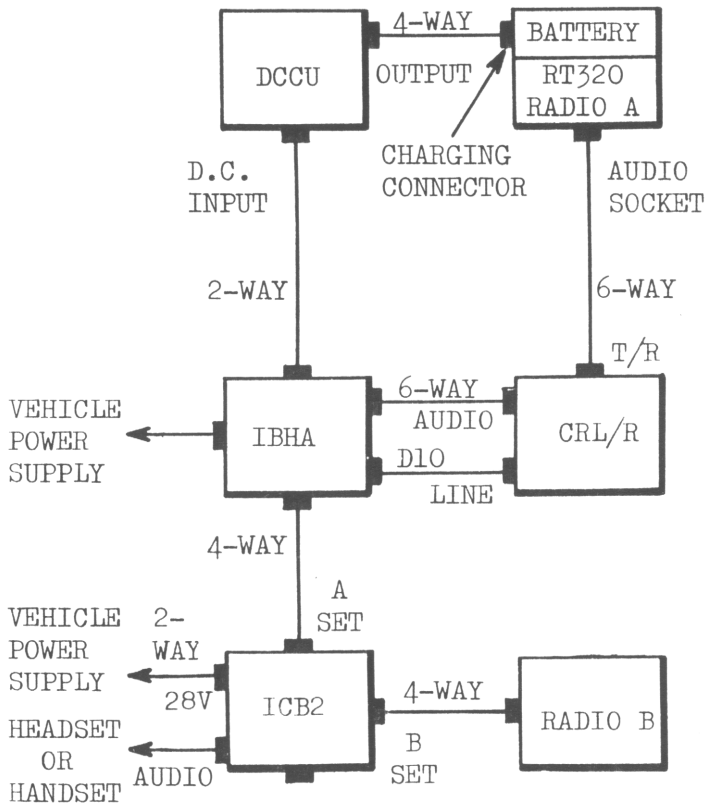

Fig.16 Local Rebroadcast Interconnections
REBROADCASTING (Fig.16)
2.24 The PRC-320 can be operated as a manual rebroadcast station in conjunction with a control, radio set, local/remote (CRL/R), an interconnecting box, harness adaptor (IBHA) and an interconnecting box, 2 radio (ICB2). Interconnections between the units are shown in block diagram form in Fig.16, but reference should be made to the User Handbook for Clansman Radio Control Harness, Army Code No. 61172.